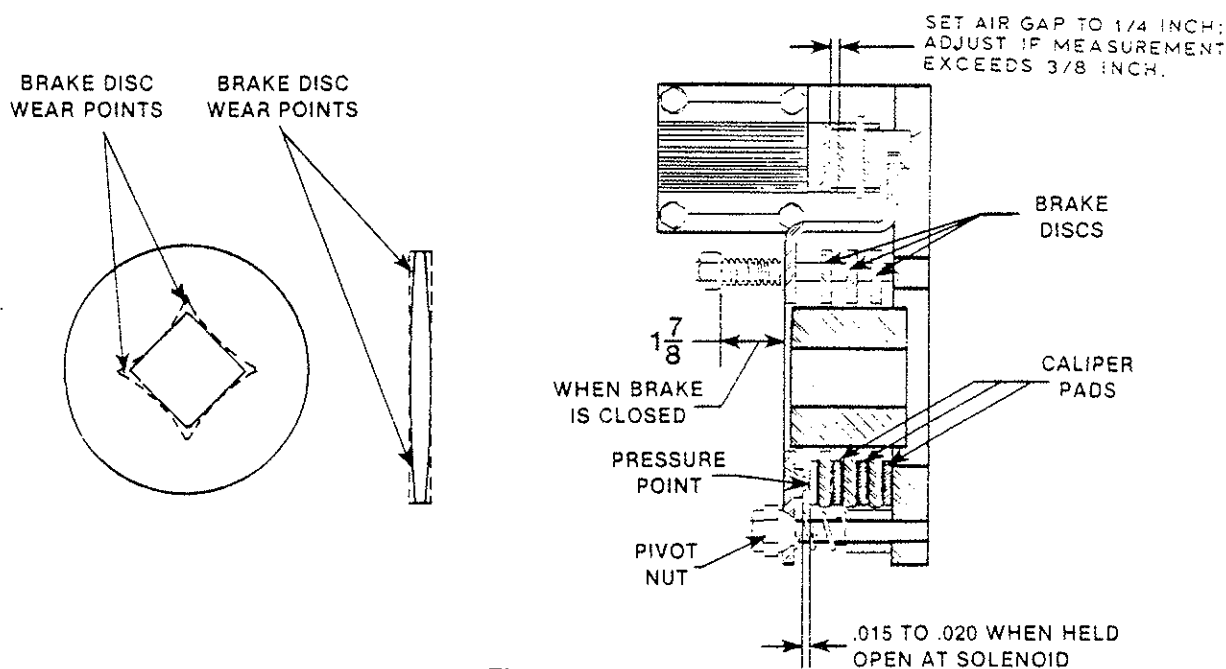

Figure 3
4. **Hoist Brake** - Check for excessive or uneven wear of the discs and caliper pads, and excessive play between the square hole in the discs and the drive block. Clean the solenoid plunger seat and check for uneven seating between the plunger and the coil. Manually hold the brake open and check adjustment as shown in Fig. 3.